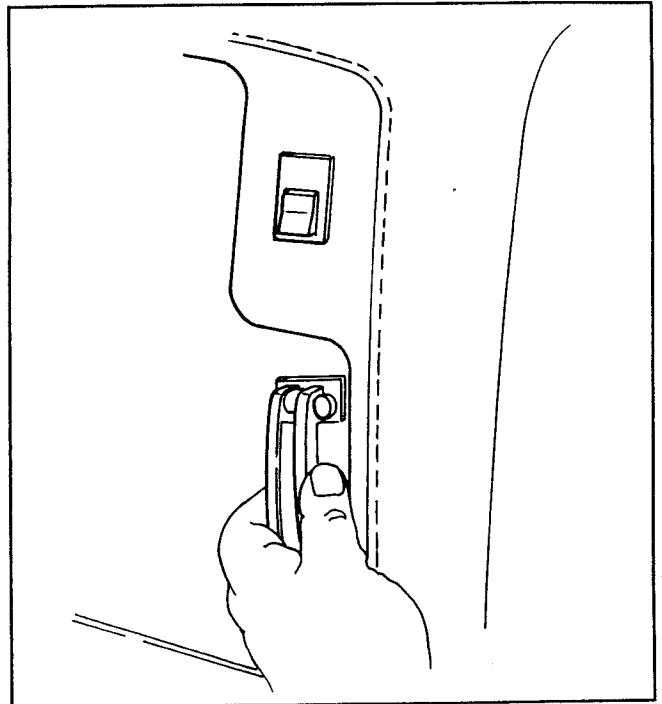

Figure 8. Release 5-Bow Pins
3. Release 5-bow pins (Fig. 8).